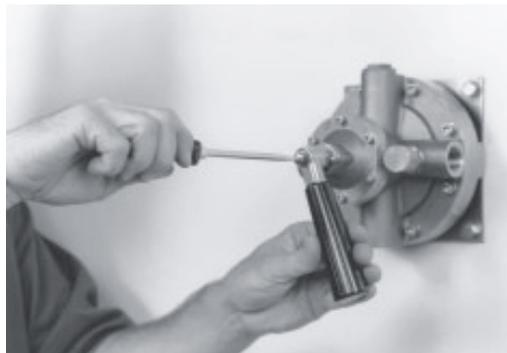

Figure 3.
- Figure 3. Adjust the Mixing Valve on site to the desired outlet temperature set point (refer to pages 9-10 "Start Up Procedure"). Once adjusted and operating satisfactorily, remove and store the temperature control lever.